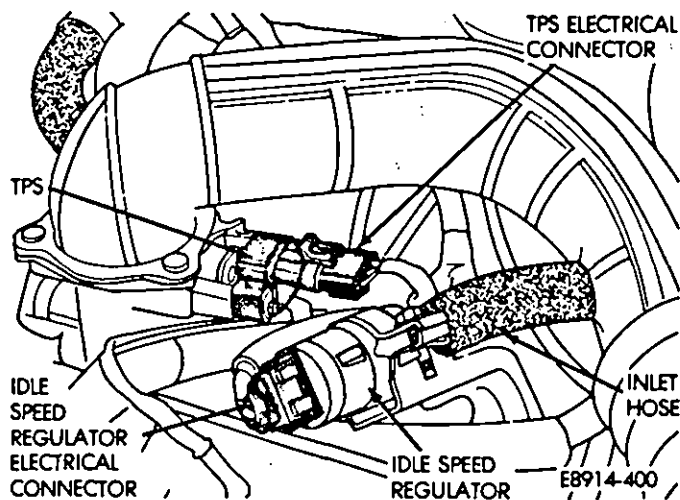

Fig. 27—TPS and Idle Speed Regulator
nectors are connected. Inspect the connections for corrosion (Fig. 27).
(14) Inspect the Idle Speed Regulator inlet and outlet hoses for fatigue (Fig. 27).